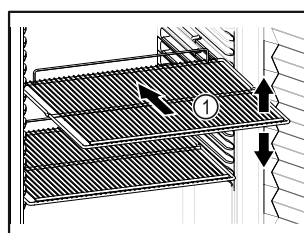

Fig. 57 Example illustration
- If there are adjustable shelves *Fig. 57 (1)*, position them as required.